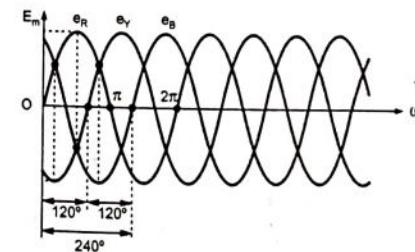

Fig. 4.3.2 Waveforms of 3 phase voltages
- Suppose  $e_R$  is assumed to be the reference and is zero for the instant shown in the Fig. 4.3.2.